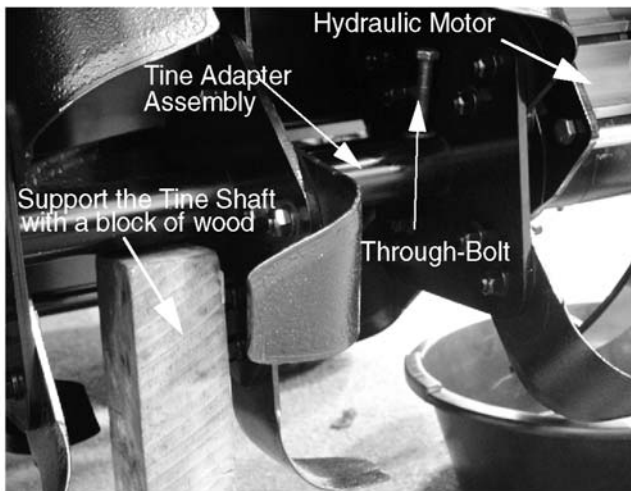

Figure 8-103.
8. Remove the through-bolts securing the tine adapter assembly to the output shaft of the hydraulic motor. See Figure 8-103.